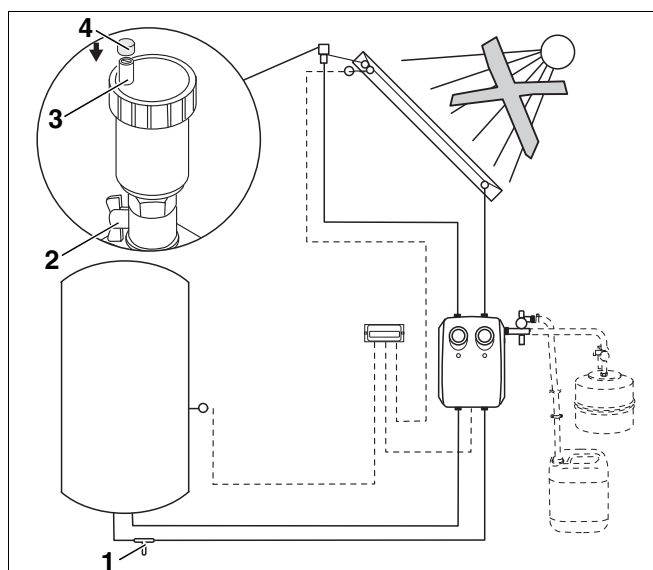

Fig. 12 Open air vent valve
The solar heating system is vented through the opened shut-off screw (Fig. 12, **Item 3**). The weather protection cap must always be positioned over the shut-off screw to prevent moisture entering through the opened shut-off screw into the air vent valve (Fig. 12, **Item 4**).
- ▶ Open the air vent valve by opening the ball valve (Fig. 12, **Item 2**).
- ▶ Open the air vent valve by unscrewing the shut-off screw (Fig. 12, **Item 3**) by one full turn.